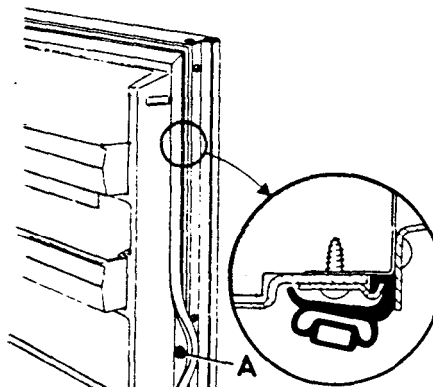

Fig. 24
4. The screws holding the door pan in place are hidden by the door gasket. Pull the door gasket to one side and remove all screws "A" (see fig. 24) from the door plate.